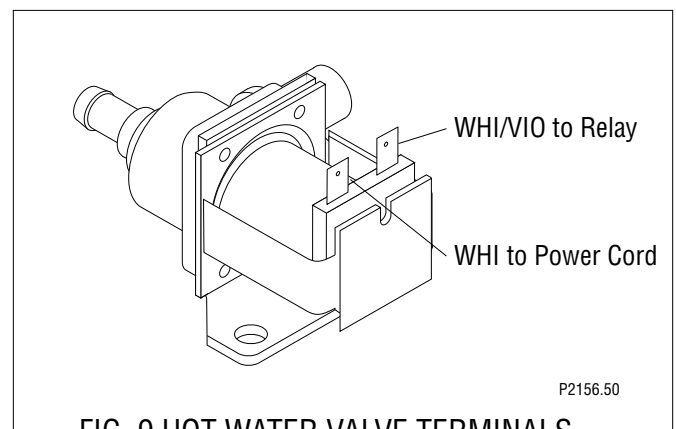

FIG. 9 HOT WATER VALVE TERMINALS
7. Refer to Fig. 9 when reconnecting the wires.